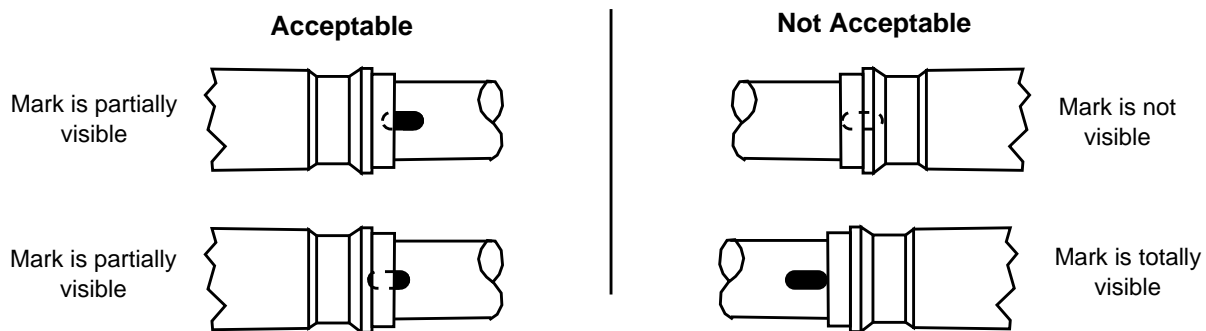

Figure 8. Fitting Location
- 6.3 Ensure that a portion of the location mark, applied during assembly, is visible on the tube at the fitting end (see Figure 8). If the mark is completely exposed or the mark is not visible, the swaged joint is not acceptable.